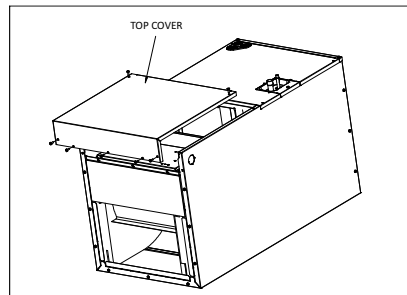

FIGURE 8: Remove The Top Cover
- 1.Tear down the seven bolts in the top cover, see in Figure 8.